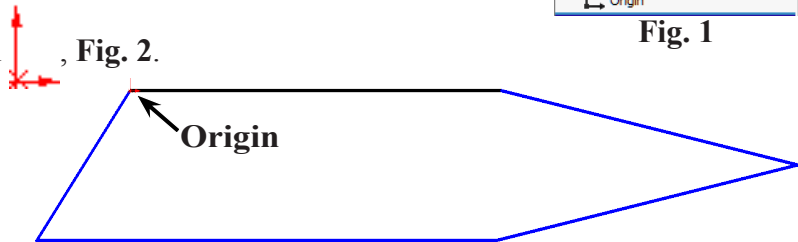

Fig. 2
Step 3. Click **Line** (L) on the Sketch toolbar.
Step 4. Sketch lines starting at Origin, **Fig. 2**.